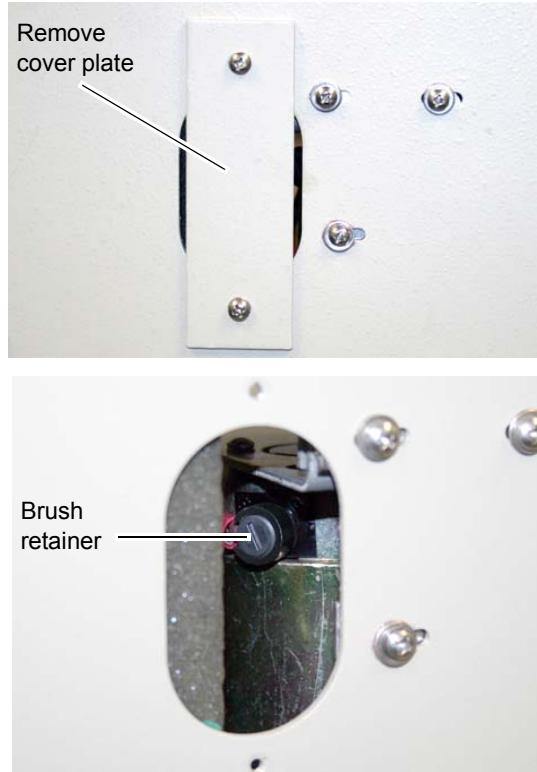

Figure 9-17 Accessing the bottom motor brush
2. Remove the two screws holding the small cover plate in place (refer to Figure 9-17).